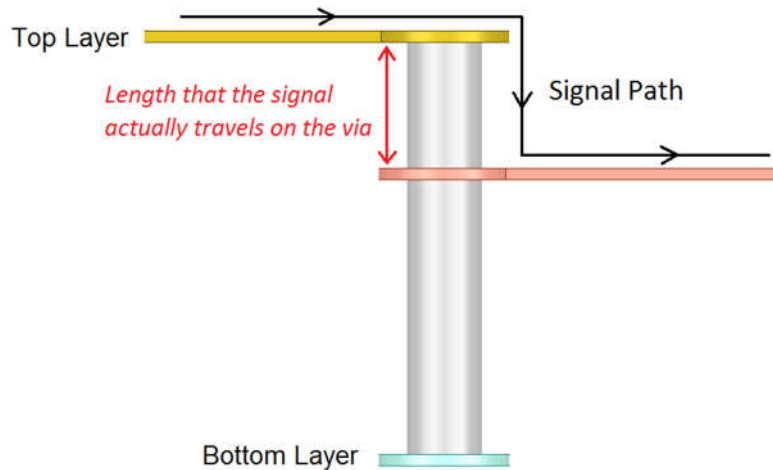

Figure 1. Length that the signal actually travels on the Via
4. At a speed of 3200 MT/s, signal vias can be a significant source of crosstalk. If not properly designed, they can introduce crosstalk larger than that from the trace. To minimize via crosstalk, make sure the total number of vias to be two or less on each point-to-point single-ended/differential trace. Place at least one ground stitching via within 50 mils of signal via when switching reference planes to provide continuous return path and reduce crosstalk. If it is not possible to place enough ground stitching vias due to space limitation, try to make the length that the signal actually travels on the via as short as possible, as illustrated in **Figure 1**.